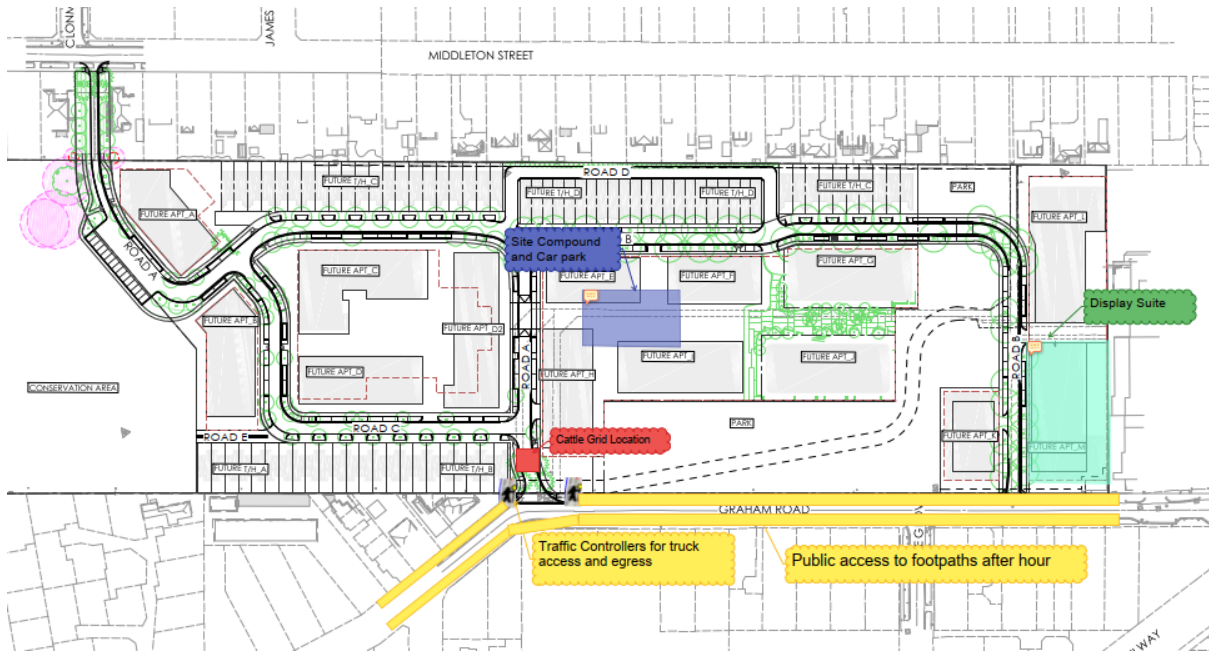

Figure 5 Cattle Grid Location and Public Access to Footpath after hours
- Cattle grids will be installed at all site entrance points to remove soil from truck tyres as they leave the site. Proposed cattle grid location as shown in Figure 5.